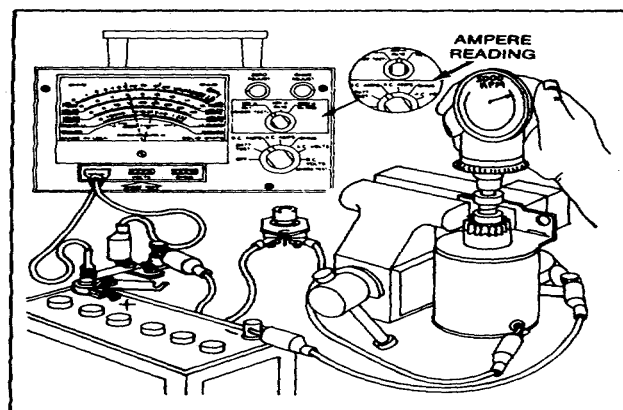

Fig. 114 -Checking 12 Volt Starter Motor Performance
Connect the starter motor, battery and ammeter as shown on the accompanying illustration. See Fig. 114.
*Note inserts, Fig. 114.